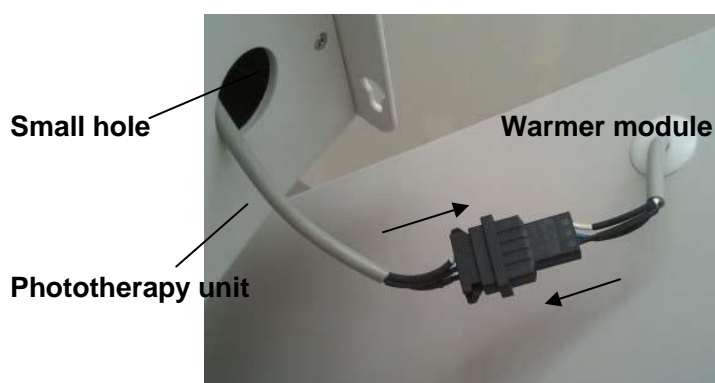

FIGURE 2.6.1
① In figure 2.6.1, connect the plug from phototherapy unit and the one from the warmer module, and then insert the wires into the small hole on the Phototherapy unit.